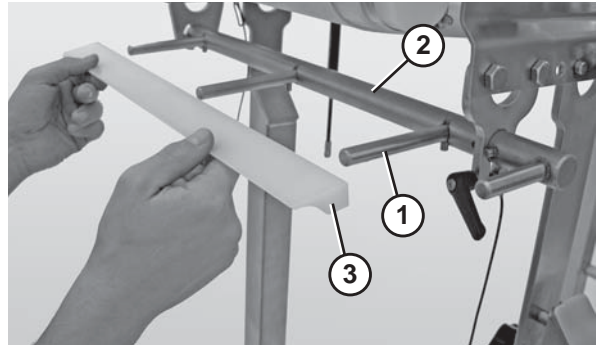

Figure 68
2. Remove scraper (**Figure 68, item 3**) and scraper bar holders (**Figure 68, item 1**) from scraper shaft (**Figure 68, item 2**).